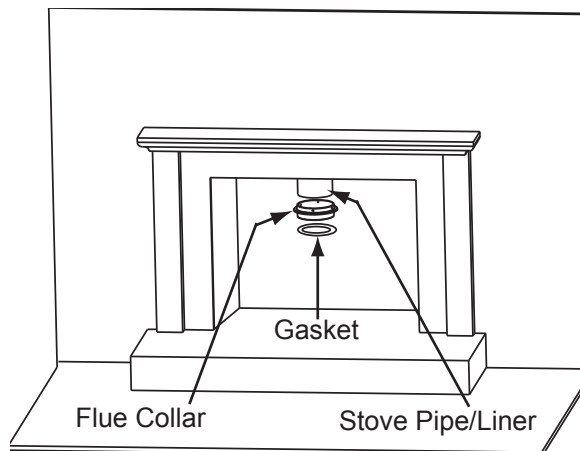

**Figure 19.1**
**Figure 19.1** shows a vertical installation and also how to create an optional 30° elbow installation.